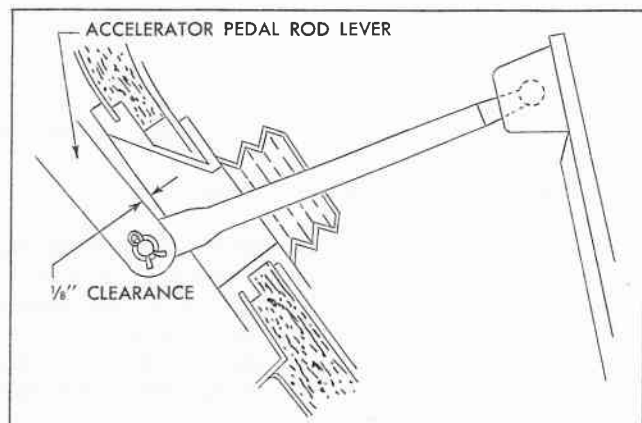

Fig. 14 Accelerator Pedal Rod Lever Clearance
3. Adjust throttle control linkage. Proceed as outlined on pages 39-40 of the 1955 Hydra-Matic Shop Manual steps 1 thru 7. Disregard step 8 and position throttle control intermediate rod as follows: Push throttle control intermediate rod downward until the end of the accelerator pedal rod lever is felt to touch the end of its travel. Shorten throttle control intermediate rod enough to allow 1/8" clearance between end of accelerator pedal rod lever and rubber bellows assembly. See Fig.14. Three turns of the trunnion nut usually gives the correct clearance. This adjustment gives the maximum allowable accelerator pedal travel.